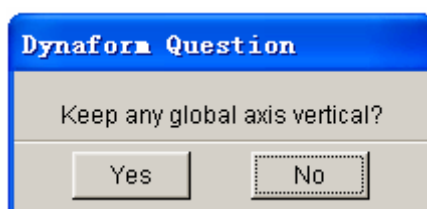

Figure 12.6.1 DYNAFORM Question dialog box
- The eta/DYNAFORM QUESTION dialog box as shown in Figure 12.6.1 is displayed.